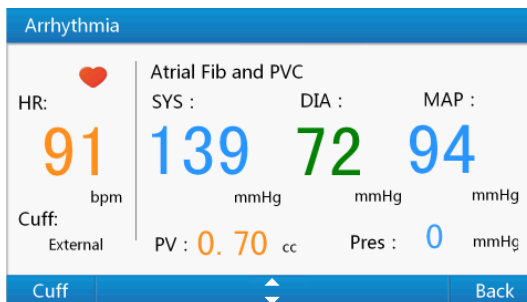

Figure 18 Arrhythmia BP simulation interface
- 1) Select "**Arrhythmia**" in "**BP Simulation Menu**" or use number key "6" to the arrhythmia BP simulation interface shown as Figure 18.